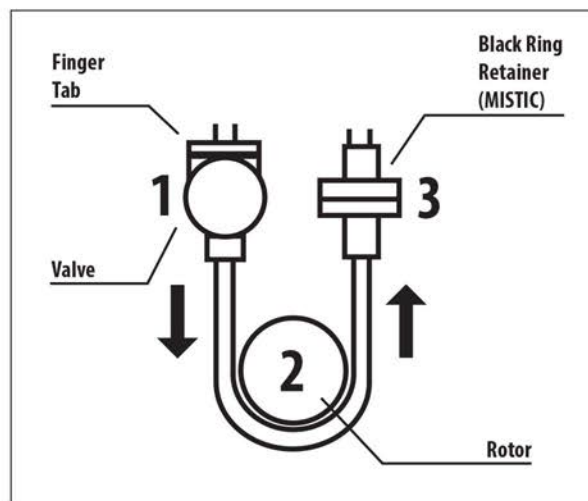

Figure 4. Installation of pump set.
3. To load pump set, refer to Figure 4:
- Grasp finger tab on valve and insert into left pocket (1).
- Grasp black ring retainer and gently stretch tubing around rotor (2). Pull up on retainer and insert into right pocket (3).